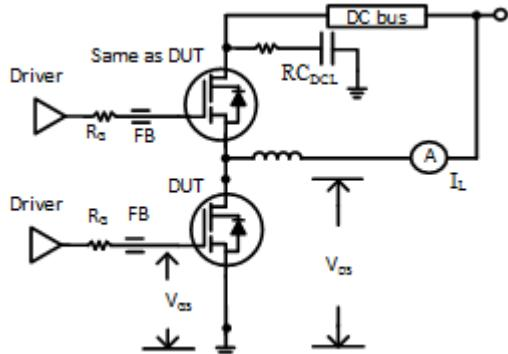

Figure 17. Switching Time Test Circuit
1. Dynamic $R_{DS(on)}$, 100% tested; see Figure 17 and Figure 18 for conditions.